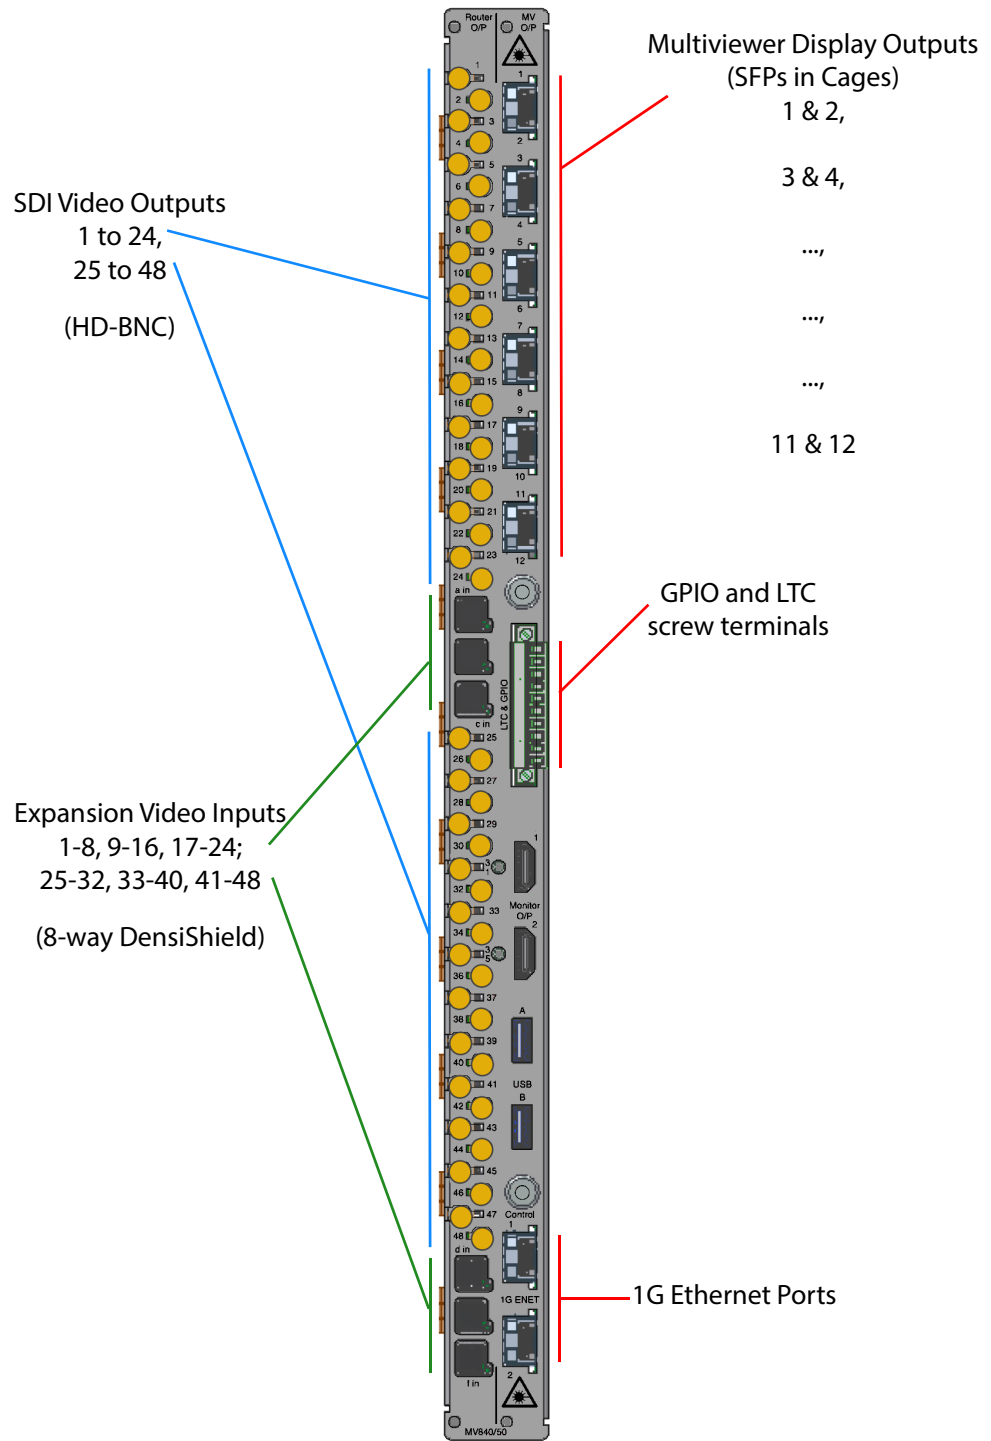

Figure 27 MV-841/851 Multiviewer Rear Panel Connections
Now that the MV-841/851 Multiviewer hardware is fitted, some cable connections need to be made. Figure 27 shows the connections that need to be made.
1. Connect the MV-841/851 directly to a computer network port via 1G Ethernet port 1 (see Figure 27) using a standard CAT 5e Ethernet cable.